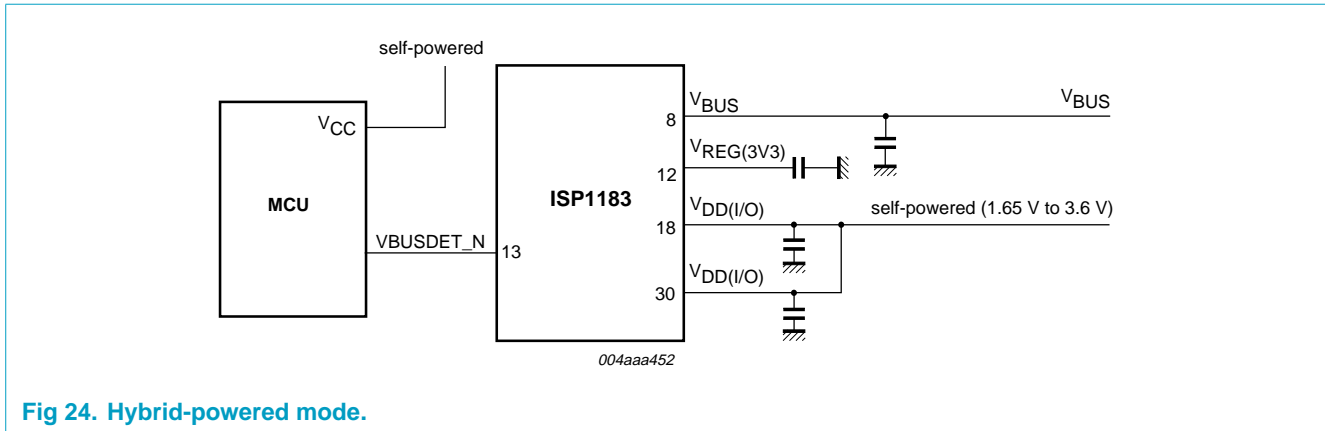

Fig 24. Hybrid-powered mode.
- When the USB cable is pulled out, pin VBUSDET_N goes HIGH, thereby indicating to the MCU that USB is disconnected. See Figure 24.
- When the USB cable is plugged in, pin VBUSDET_N goes LOW. This indicates to the MCU that the USB cable is plugged in. The MCU can then prepare to reconfigure all registers of the ISP1183. See Figure 24.